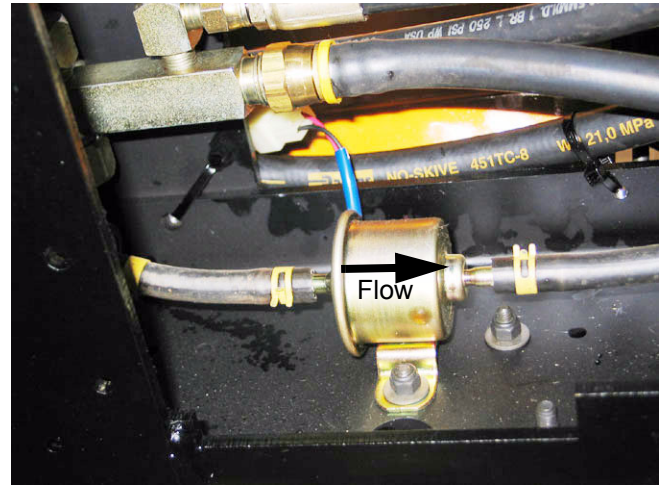

Figure 3.3
- 3.3. The electric fuel pump is mounted to the left hand side frame channel on all gasoline powered domestic compact tractors. See Figure 3.3.